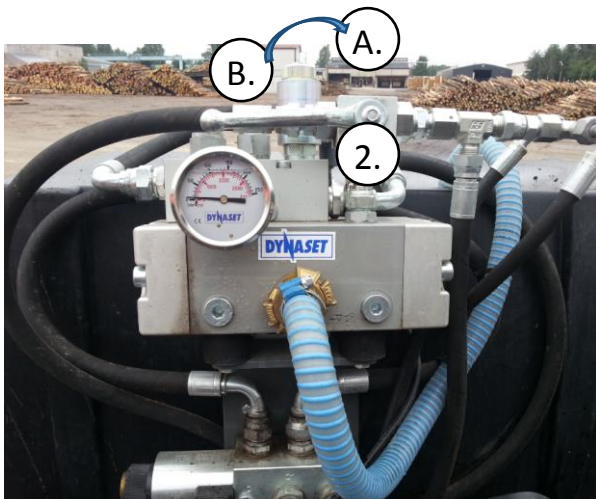
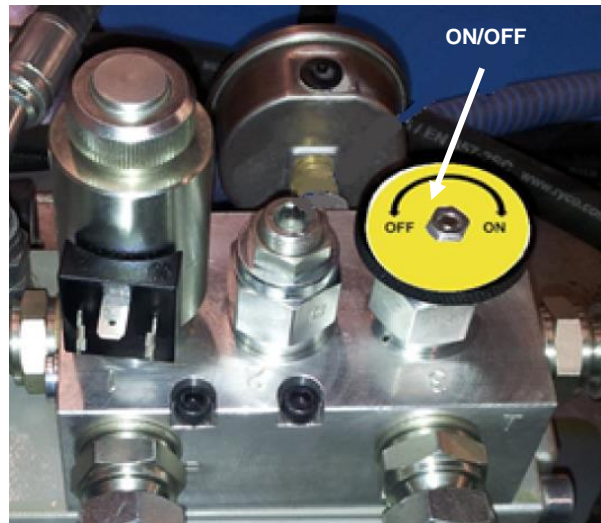

Figure 5
Figure 6
1. The nozzles of the sweeper must be activated (Figure 5) (valve 2 in position B).
3. Turn the ON/OFF valve (Figure 6) anticlockwise to the OFF position. This will switch the sweeping mechanism off.
Connecting the electrical valve activates the washer. Valve 2 (Figure 5) must be in position B.
When you are using only the washing gun, turn the rotation hydraulics of the brush off by turning the control switch on the pump (Figure 6). Activate the washing gun by turning the valve (number 2 in Figure 5) to position A.
Valve 2 (Figure 5) activates the washing nozzles (position B) or the manual washer (position A).
- Allow the pump to run with valve 2 in position A (Figure 5) until all the water is drained from the nozzles.